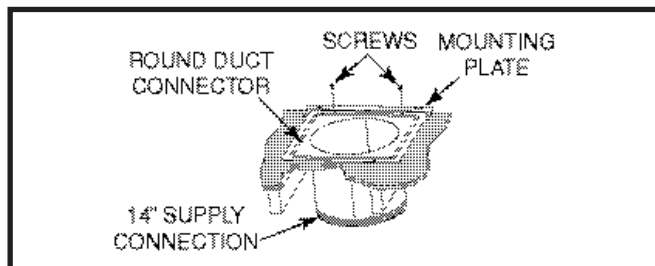

Figure 11. Round Duct Connector Installed
- Bend the tabs on the bottom of the duct connector upwards and as tight as possible against the supply air duct. See Figure 11 \(page 11\).